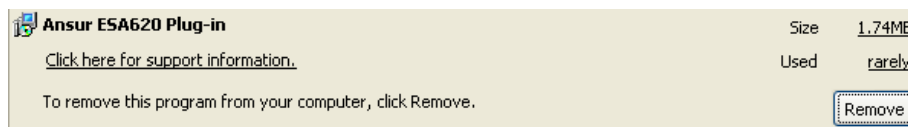

Figure 2-3. Removing ESA620 Plug-In
3. With the entry highlighted, click the **Remove** button as shown in Figure 2-3.